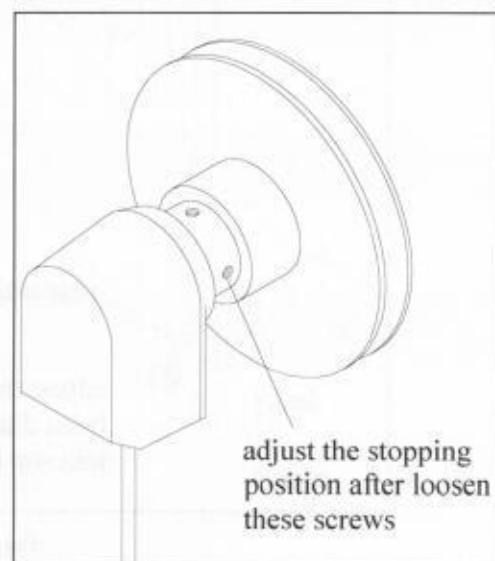

Fig.15
4.10 Adjustment of the stopping position(Fig.15):
The needle stopping position is controlled by the computer and the speed sensor on the main shaft. Adjust the relative position between the sensor and the main shaft after loosen the two screw on the sensor so as to adjust the needle stopping position. (as shown in Fig.15)